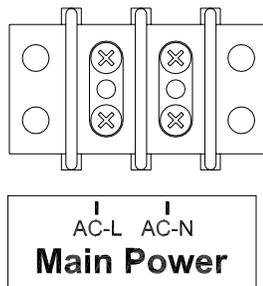

Figure 15 Power to Scoreboard Connections
3. Connect the AC line wire and AC neutral wire to the **Main Power** terminal block on the junction chassis according to Figure 15.